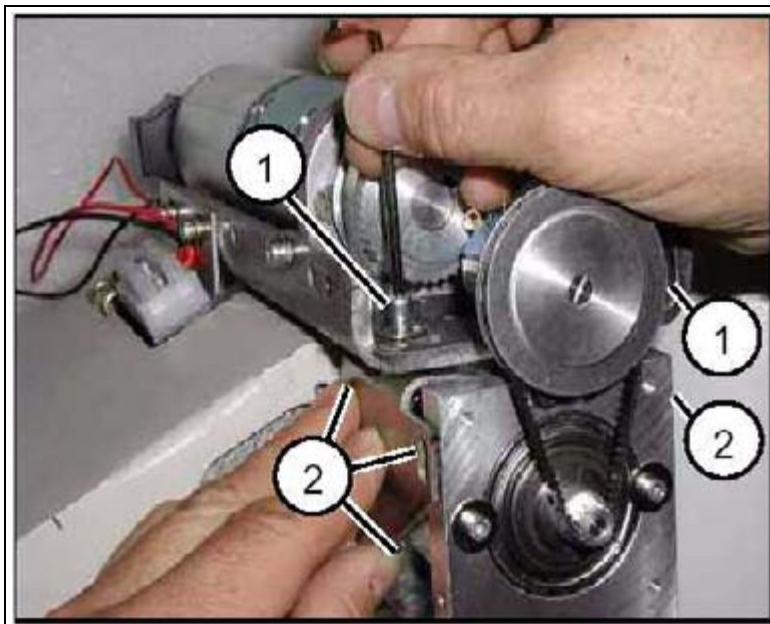

Fig. 32: Toothed belt of the orbital drive\_3
4. Loosen the 2 fastening screws at the two lateral brackets (1/Fig. 32 / p. 74).
6. Unscrew the two lateral brackets from the coupling unit (3 Allen screws each, \(2/Fig. 32 / p. 74\)).
14. Reattach the two lateral brackets \(2/Fig. 32 / p. 74\). For guidance, insert the top two screws (\(1/Fig. 32 / p. 74\)), but do not tighten them completely yet. Tighten the lateral screws first, and then tighten the top two screws \(2/Fig. 32 / p. 74\).